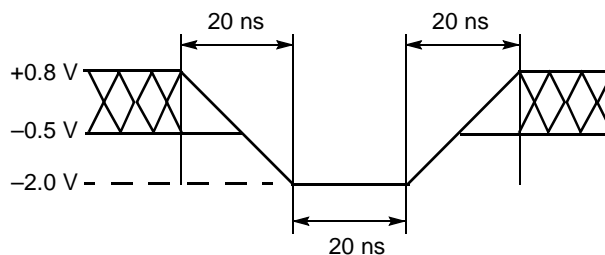
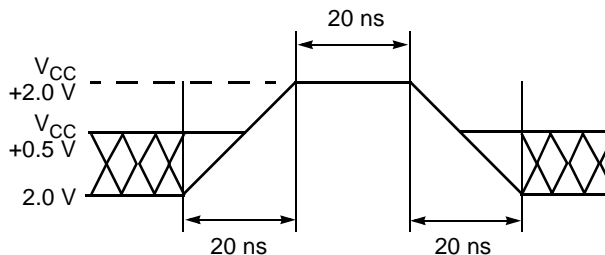

Figure 9. Maximum Negative Overshoot Waveform
Figure 10. Maximum Positive Overshoot Waveform
1. Minimum DC voltage on input or I/O pins is -0.5 V . During voltage transitions, input at I/O pins may overshoot V_{SS} to -2.0 V for periods of up to 20 ns. See Figure 9. Maximum DC voltage on output and I/O pins is $V_{CC} + 0.5\text{ V}$. During voltage transitions output pins may overshoot to $V_{CC} + 2.0\text{ V}$ for periods up to 20 ns. See Figure 10.
2. Minimum DC input voltage on pins A9, OE#, and RESET# is -0.5 V . During voltage transitions, A9, OE#, and RESET# may overshoot V_{SS} to -2.0 V for periods of up to 20 ns. See Figure 9. Maximum DC input voltage on pin A9 and OE# is $+13.0\text{ V}$ which may overshoot to 14.0 V for periods up to 20 ns.